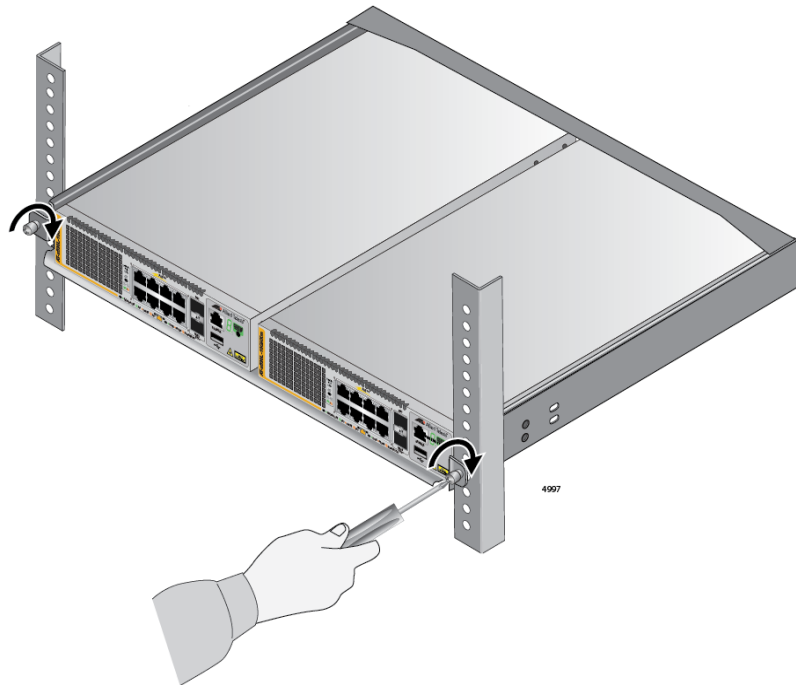

Figure 63. Tightening the Two Thumbscrews on the RKMT-J15 bracket.
11. Tighten the two thumbscrews to secure the bracket to the rack. Refer to Figure 63.